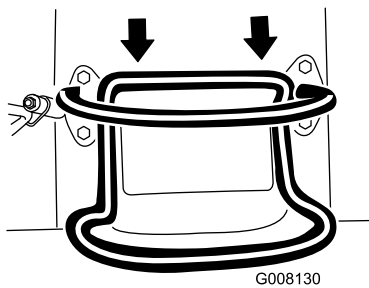

Figure 7
- To move rearward, move the traction control rearward (Figure 7). **When reversing, look behind for obstructions and keep your hands on the reference bar.**